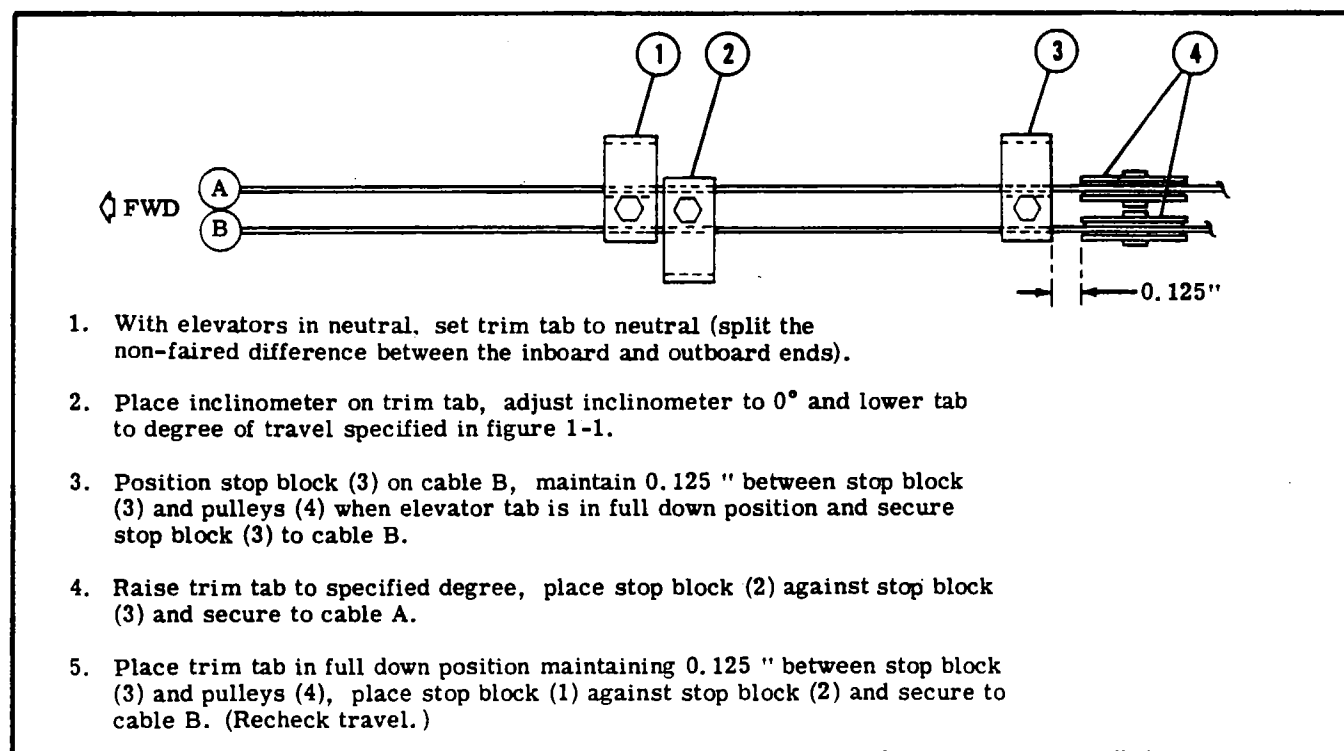

Figure 9-5. Elevator Trim Tab Travel Stop Adjustment
- i. Position stop blocks and adjust as illustrated in figure 9-5 to degree of trim tab travel specified in figure 1-1.
- j. Install pedestal cover and adjust trim tab pointer (3) as follows:
1. Rotate trim control wheel (7) top place tab at 10° up position.
2. Locate the pointer (3) at the TAKE-OFF triangle as viewed from the pilot seat. (Refer to step "e," and reposition pointer if necessary.)
3. Bend pointer (3) as required to clear pedestal cover. (Pointer must NOT rub against pedestal cover or clear cover more than .125 inch maximum.)